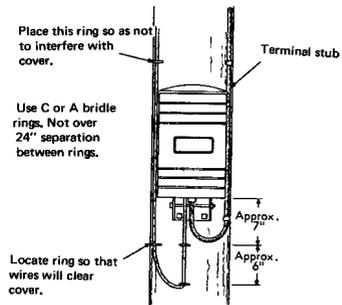

FIGURE 5. Terminals with Center Wiring Channels
- 4.06 For terminals having a wiring channel in the center of the terminal, place wiring facilities on poles as shown in Figure 5.